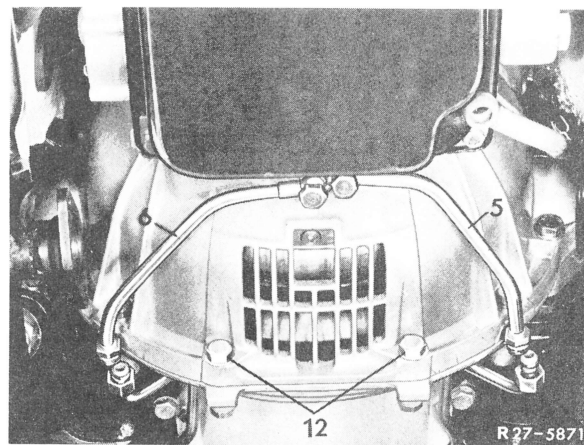

Fig. 2
5 Unscrew oil cooler lines (5) and (6) (Fig. 2).